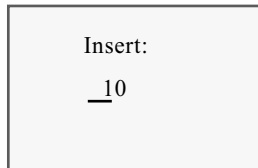

Fig. 4.16 Insert Function Block
1. Press OK at ">Insert FB" in the Editor Frame and the insert status is entered, as shown in Fig. 4.16.
2. After the number of the function block to be inserted (e.g. 3, 6, 10.....) is inputted at the cursor position as shown in Fig. 4.16, press "OK" and the Select Function Block Frame is entered. A corresponding function block will be inserted when it is selected and 1 will be automatically added to the numbers of all the function blocks following the inserted one.